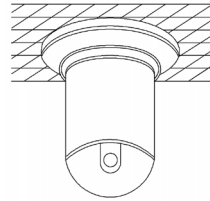

Figure 16
5) (Figure 16) shows the system is installed.